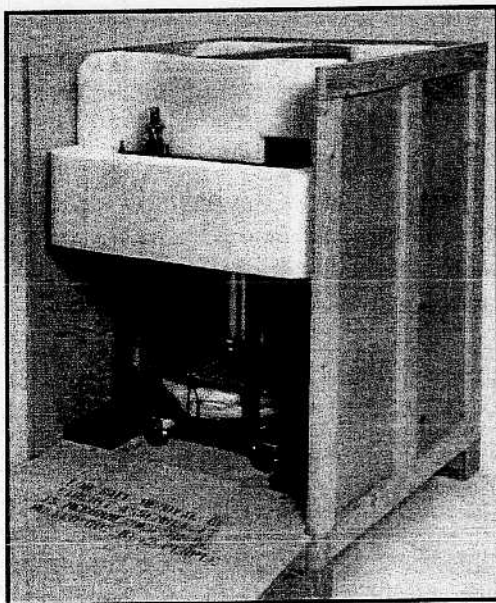
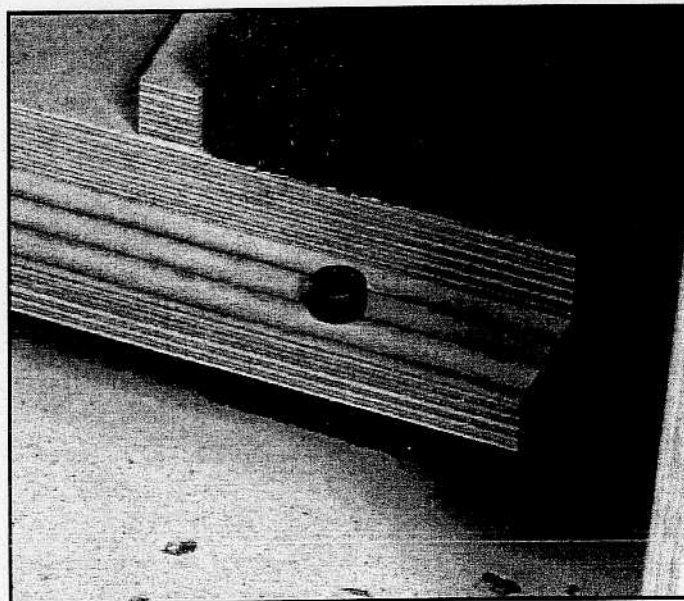

Fig. 4b
Fig. 4c
- iii. With the front panel removed it can be used to create a ramp (see Fig. 4b) by locating the two large holes over the screw heads found at the front of the sub-base (see Fig. 4c).